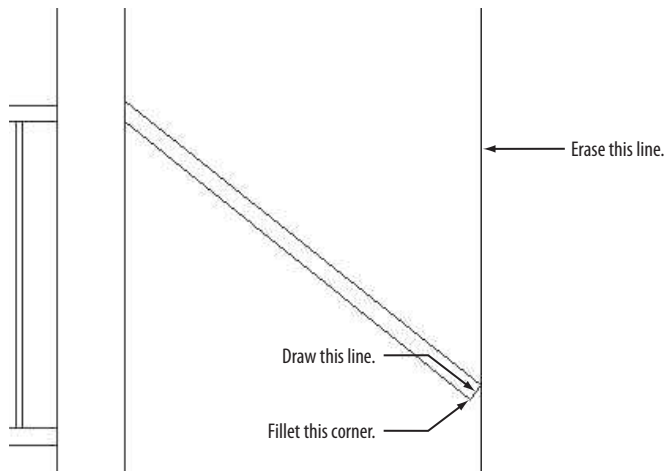

FIGURE 10.30: Finishing the stair rail
12. Extend the lower line only to the post on the left, as shown in Figure 10.30.
- 14.** Erase the vertical line that extends from the floor plan (as shown previously in Figure 10.30).